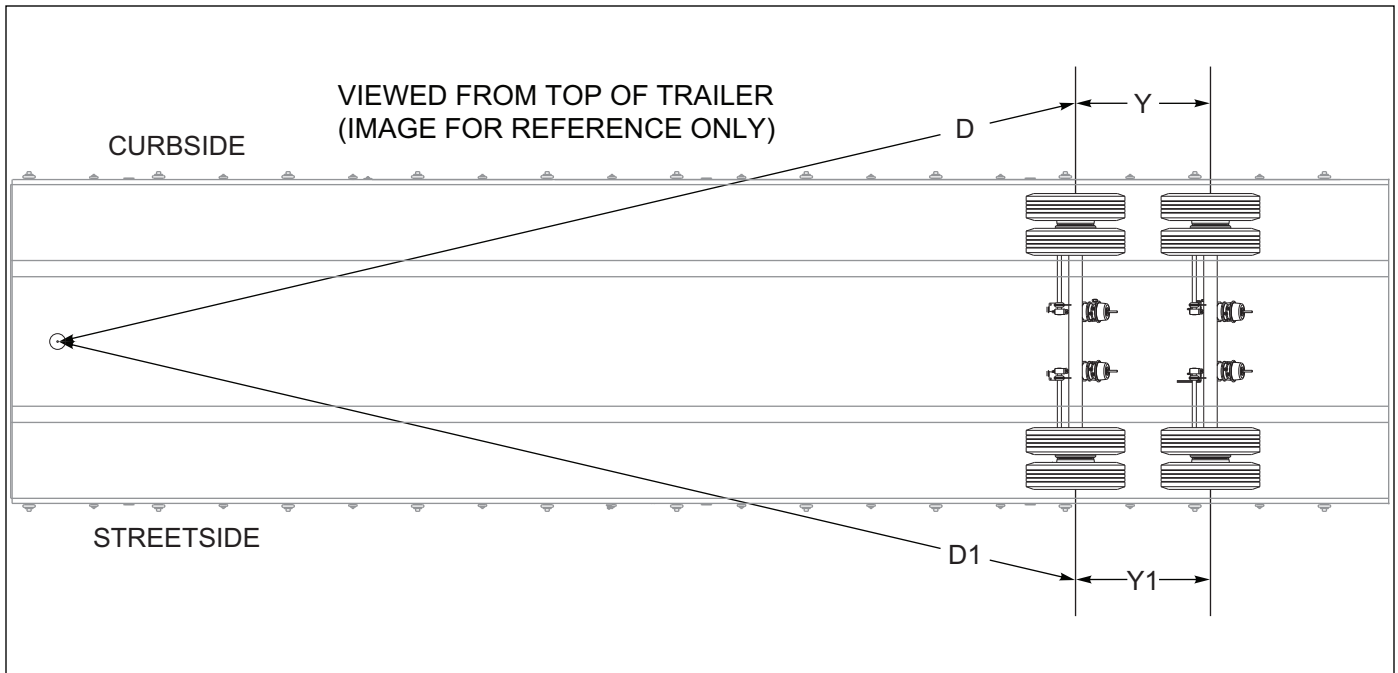

Figure 4-9: Checking Axle Alignment
3. Move the axle gauge and place against the back side of the axle. If either of the points of double point end fails to touch the axle surface, a bent spindle is evident. A point gap of .015" or more is considered excessive tire "toe" and the axle must be replaced (See Figure 4-9.)
5. Measure **Curbside (D)** from the plumb bob to the 1st axle center. Measure **Streetside (D1)** from the plumb bob to the 1st axle center. **Curbside (D)** should be about 1/8 in (3.18 mm) shorter than **Streetside (D1)**, See Figure 4-9.
2. Measure from 1st axle center to the trailer 2nd axle center on the curbside then the streetside. Measurements should be the same. Use **(Y)** and **(Y1)** as reference, See Figure 4-9.
5. Measure **Curbside (D)** from the plumb bob to the 1st axle center. Measure **Streetside (D1)** from the plumb bob to the 1st axle center. **Curbside (D)** should be about 1/8 inch (3.175 mm) shorter than **Streetside (D1)**. See Figure 4-9.
2. Measure from 1st axle center to the trailer 2nd axle center on the curbside then the streetside. Measurements should be the same. Use (Y) and (Y1) as reference. See Figure 4-9.